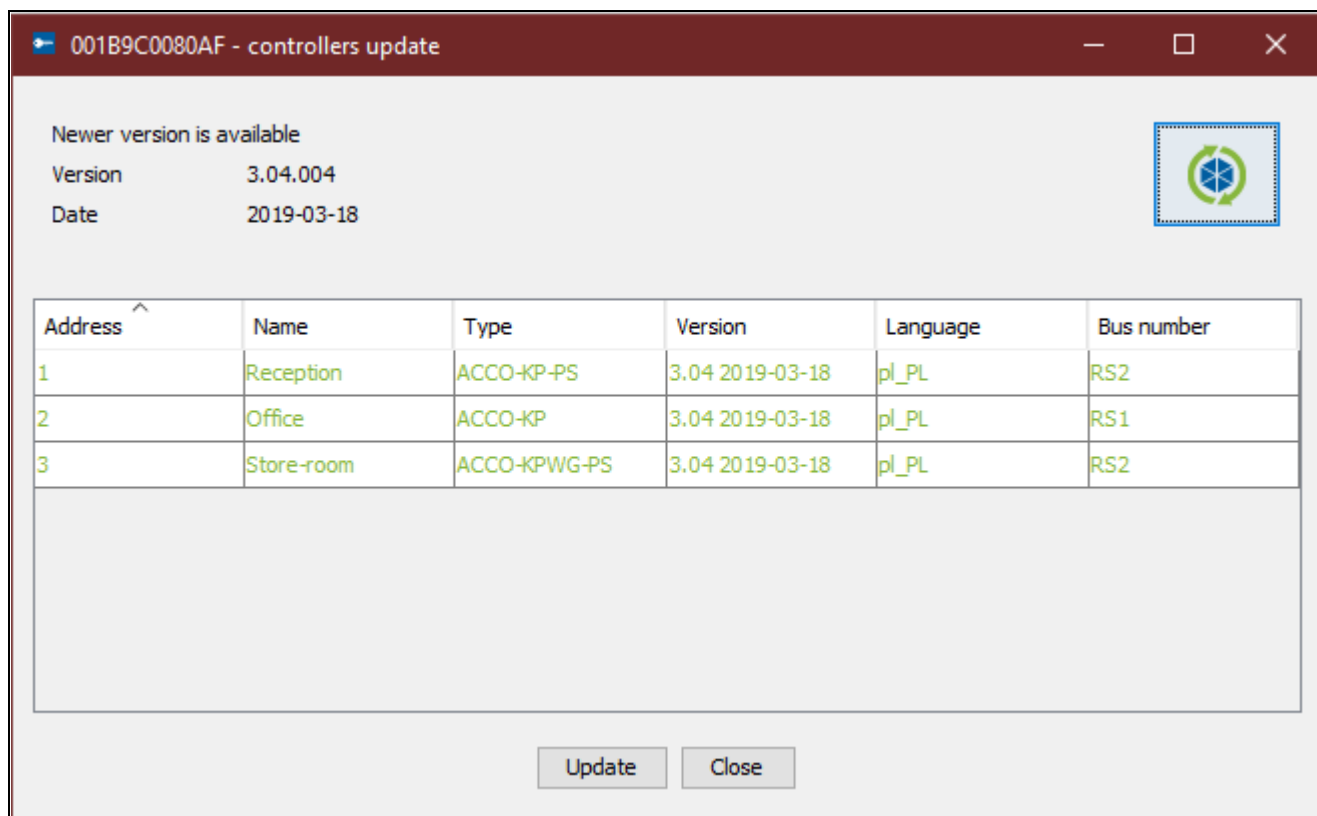

Fig. 23. Controller firmware update window.
3. A window will open with the current firmware version of all selected devices, as well as information on the new available version (see Fig. 23).